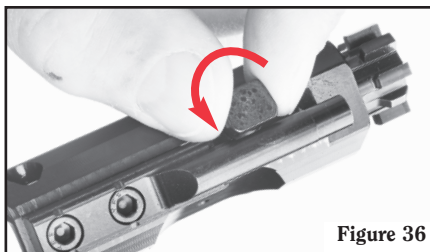

Figure 36
- e. Insert the cam pin and rotate a quarter turn counterclockwise (Figure 36).